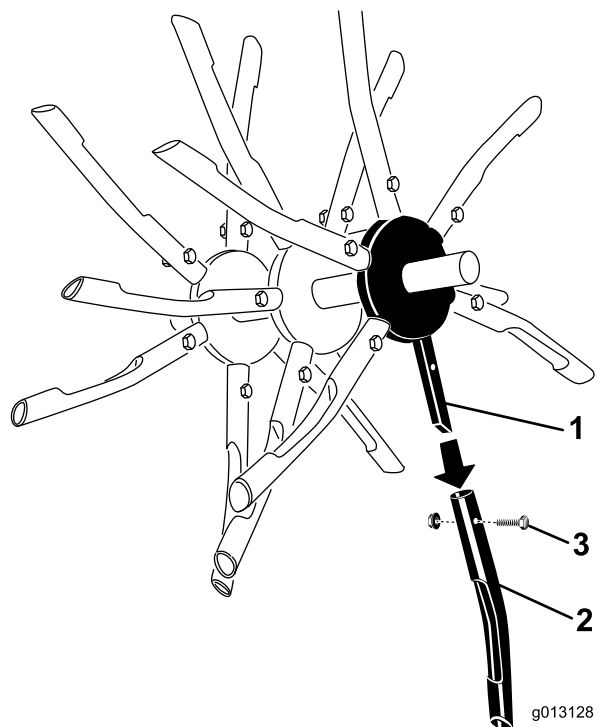

Figure 32
4. If any are damaged or broken, remove the nut and bolt securing the tine to the tine assembly (Figure 32).